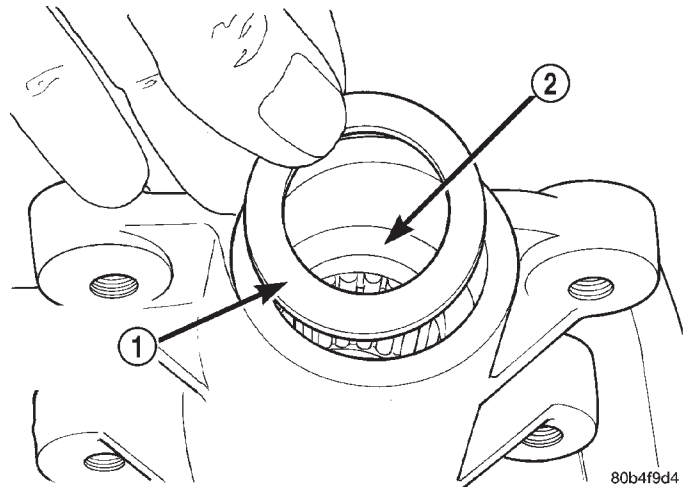

Fig. 26 Oil Seal Backup Washers
(14) Remove metal backup washer then plastic backup washer from the housing (Fig. 26).